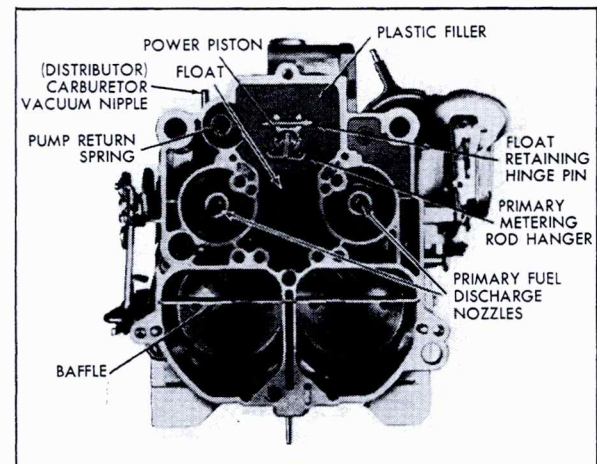

Fig. 6-69 Float Bowl Assembly
2. Remove pump plunger from pump well, Fig. 6-69.